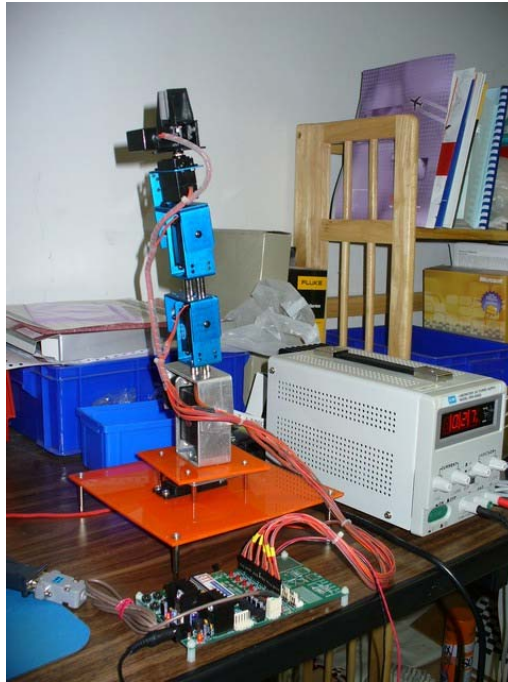

Figure 19 The robot after wrapping up all the wires
2. Install four 40-mm PCB stands (Item 8) at 4 corners of the large acrylic board. Extend the servo motor cables to appropriate lengths and wrap them up. Connect the connectors of the servo motors to the servo controller as shown in Figure 19.